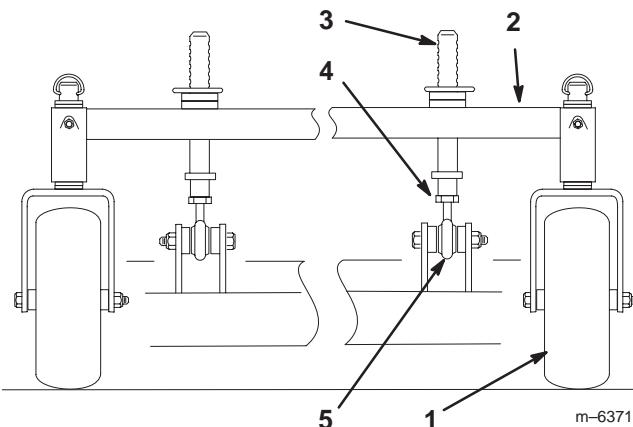

Figure 60
1. To change the front-to-rear pitch, the front height-of-cut posts can be adjusted (Fig. 60).
2. To raise the front of the deck, loosen jam nut and rotate the front pin clockwise (Fig. 60).
3. To lower the front of the deck, loosen jam nut and rotate the front pin counter clockwise (Fig. 60).
6. Tighten the jam nuts (Fig. 60).